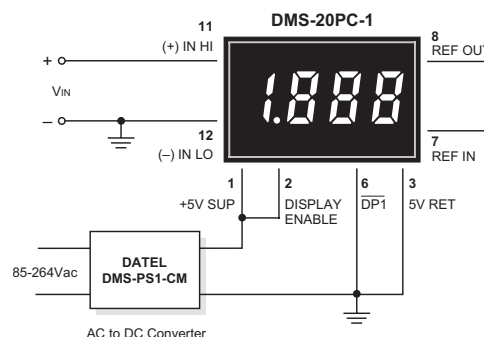

Figure 2. Single-Ended Input Configuration
- 1. Single-Ended Input Configurations:** True single-ended measurements can be made with any DMS-20PC meter. The circuit of Figure 2 avoids problems normally associated with ground-loop currents. Separate ground runs should be used for 5V RETURN (pin 3) and (–) INPUT LO (pin 12).